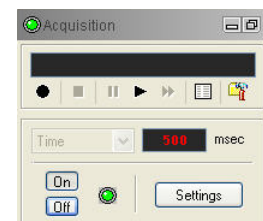

Figure 4-2 Acquisition panel
7. In the **Acquisition** panel (**Figure 4-2**) select the sampling mode (Depth Up). Click on **Settings** and specify the corresponding sampling interval. Switch on the sampling (click the **ON** button).
8. Press the **Record** button in the **Acquisition** panel (**Figure 4-2**), specify a file name and start the logging.